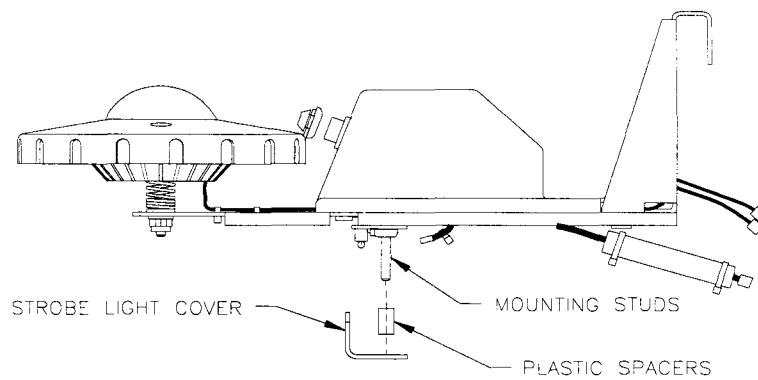

FIGURE 13
3. Slide Strobe Light Cover (p/n 03-9478.3) and Plastic Spacers (p/n 03-6047-3) off of the mounting studs. (See Fig.13)